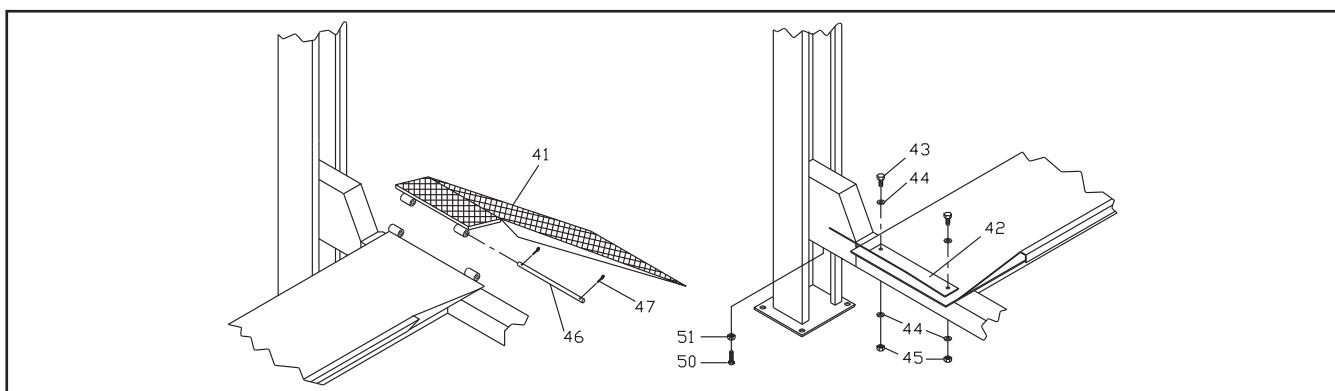

Fig.56 Securing the vehicle ramps and wheel stops
The vehicle ramps (pos.41, fig.56) and the wheel stops (42) can be fitted on either end of platforms (7 - 8) according to the user's requirements. Fit the ramps (41) by slotting them into the platforms on the required end and then fix the wheel stops (42) on the opposite end using M10 x 25 H.H. screws (43), 11 x 30 washers (44) and M10 nuts (45). If required fit the regulation screws for ground positionnement (50 and 51).